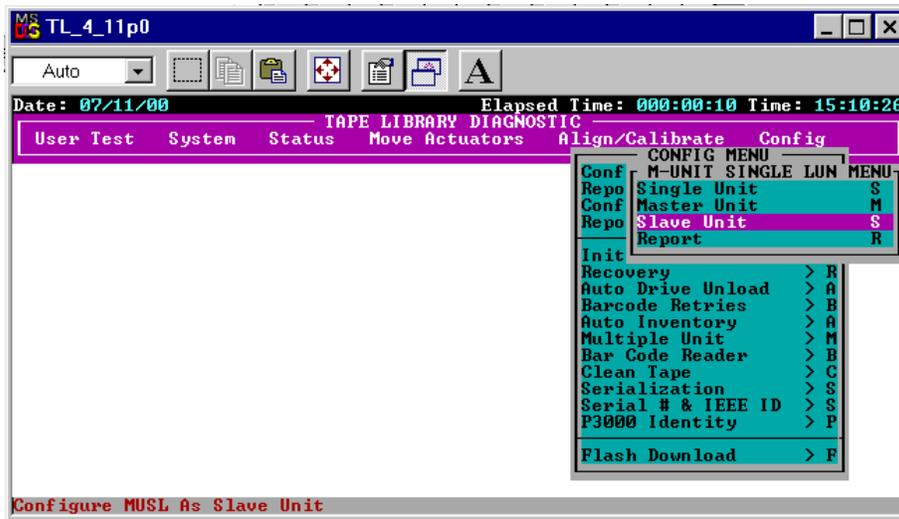

Figure 3-13. Multi-Unit Configuration sub-menu
- From the Multi-Unit sub-menu, select Master Unit or Slave Unit for the library configuration (see Figure 3-13). The library connected to the host is the master library. Any library in the multi-unit library system can be a master. The remaining libraries are slaves.